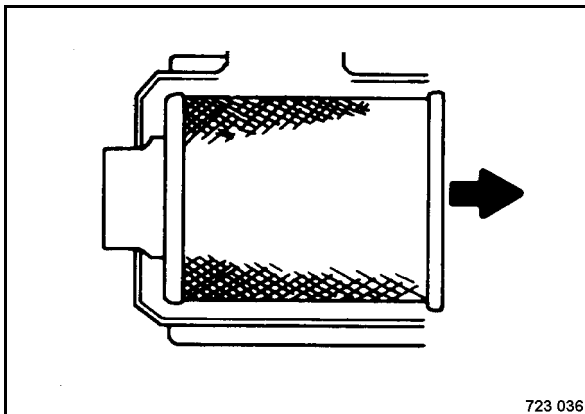

Fig. 105
- Pull the main filter element (Fig. 105) carefully out of the housing.